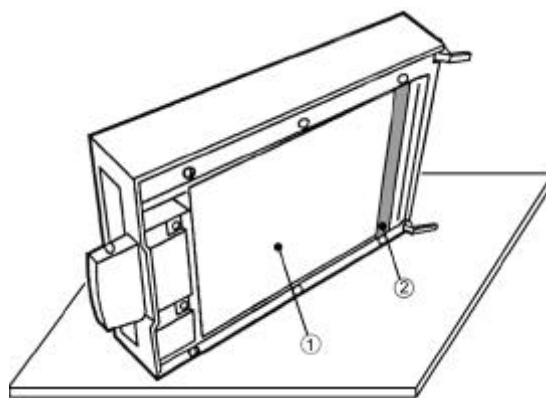

fig. 4.6
Once the ADF is detached, please pay attention to don't damage the white plastic background (see ① in figure 4.6) and the transparent scraper sheet (see ② in figure 4.6). Purpose of the former is to exert a uniform pressure on the page lying on the flatbed glass; scope of the transparent scraper window is to allow the light to reach the page when scanning from ADF. Figure 4.6 also shows the correct way to lay the ADF down on a table surface.